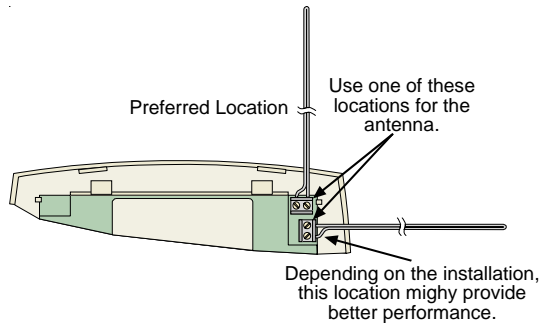

Figure 6: Connecting Antennas
- Insert the antenna into one of the antenna connectors as shown in *Figure 6*.